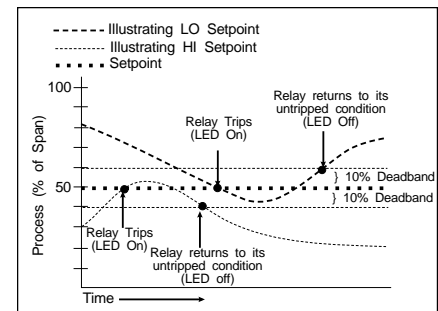

Figure 1: Limit Alarm operation and effect of deadband(s).
Normal deadband is the amount of input change required to reset the limit alarm to an untripped condition, it is measured from the point of trip, and expressed as a percentage of the input span. Single and Dual trip limit alarms have adjustable deadband(s) from 0.25% to 100% of span and are normally set at 0.25% (see figure 1).
- X** LO or LO/LO Alarm (relay(s) trip when input falls below setpoint, see figure 1).